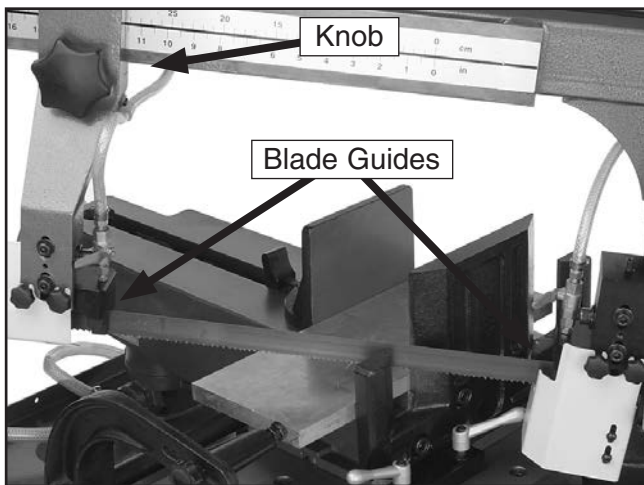

Figure 23. Blade guides.
1. Loosen the knob shown in **Figure 23** and slide the rear blade guide as close to the workpiece as possible, then tighten the knob.